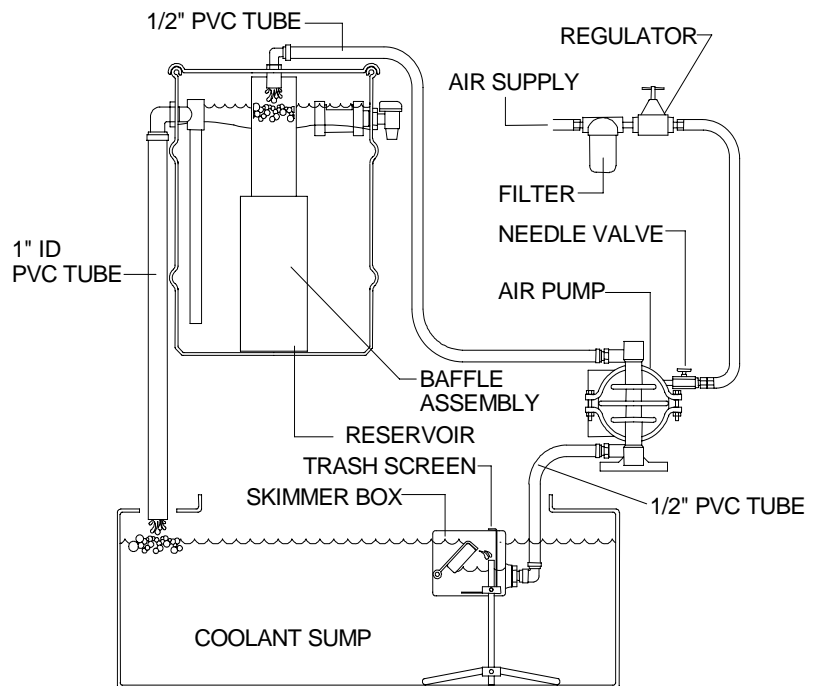

Figure 5
4. Mount the Air Pump in a suitable location. The pump must be mounted securely to prevent movement during operation. Connect the inlet port of the Pump to the elbow on the box with a length of 1/2" ID PVC tube cut from the 10' length provided. Adjust the tube length to keep the pump inlet angled upward if possible (see Fig. 5).
5. Connect the pump outlet to the elbow in the reservoir tank lid with a length of 1/2" ID PVC tube cut from the remainder of the 10' length. Secure the ends with hose clamps (see Fig. 5). For best results the pump should use an air filter and regulator. The Air Pump is permanently lubricated and does not require in-line lubrication.